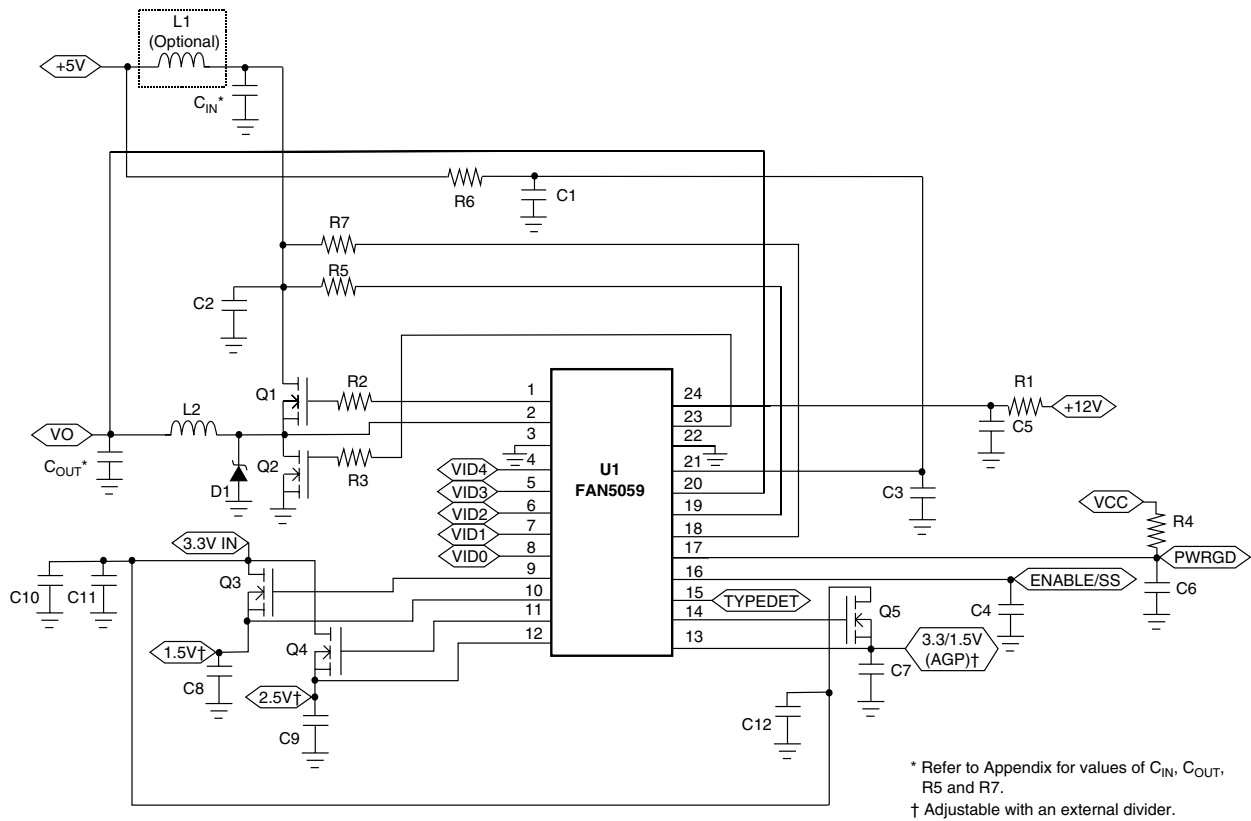

Figure 1. Typical Application Circuit
**Electrical Specifications** (Continued)(VCCA = 5V, VCCP = 12V, VOUT = 2.0V, and TA = +25°C using circuit in Figure 1 unless otherwise noted.)
( $V_{CCA} = 5V$ ,  $V_{CCP} = 12V$ , and  $T_A = +25^\circ C$  using circuits in Figure 1, unless otherwise noted.)